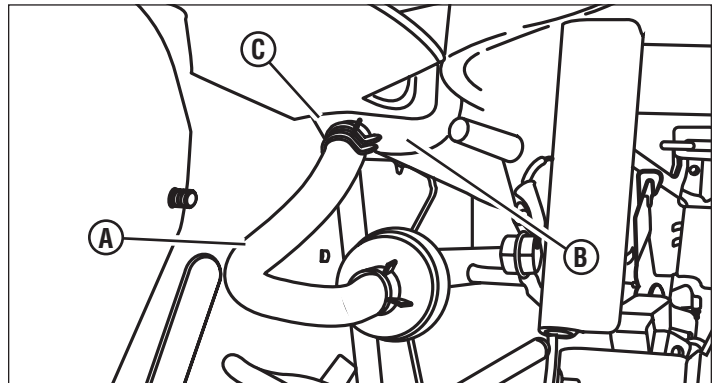

Figure 8
- A. Install the fuel line (A, Figure 8) fully onto the fuel barbs on the bottom of the fuel tank (B). Secure with the hose clamp (C). NOTE: The hose clamp should be placed approximately 1/8" from the end of the hose.